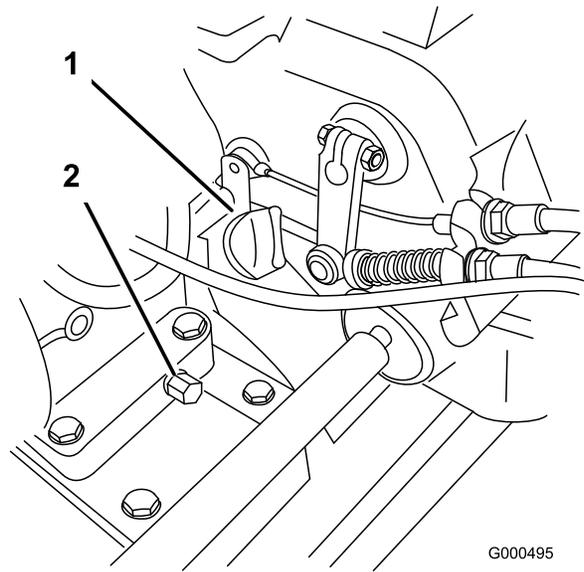

Figure 26
1. Remove the transport wheels (if installed), position the mower so the engine is level and clean around oil level gauge (Figure 26).
2. Place a drain pan at rear of machine under drain plug (Figure 26). Remove drain plug.